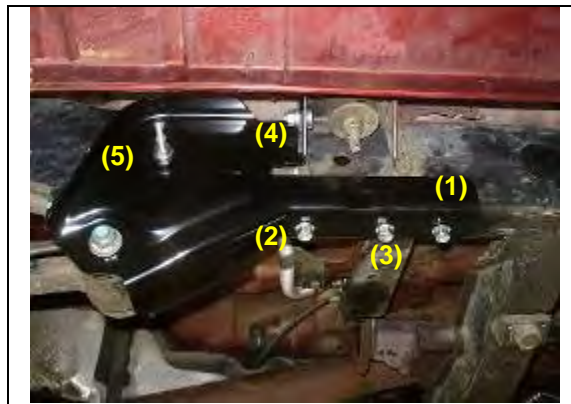

Figure 37
17. Torque the bolts in sequence and to the specifications shown in Figure 37.